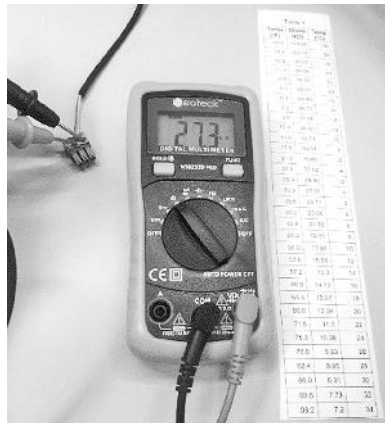

Figure 5
- 1) Use a multimeter and set it to the resistance (Ω) setting. See Figure 5.